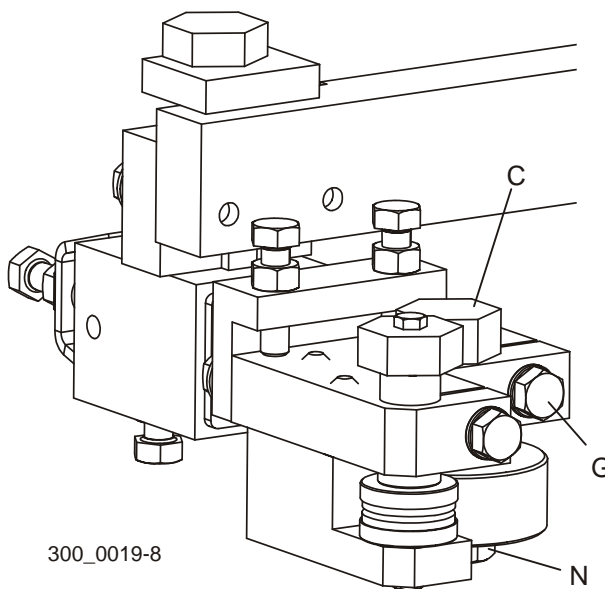

FIG. 7-18
3. Turn bolt (A) counterclockwise on each blade guide assembly up until the bottom guide disks touch the blade, but do not deflect it upward.
4. Turn bolt (F) clockwise to adjust the top guide disk on each blade guide assembly back down until it touches the blade, then back up 1/4 - 1/2 turn. Tighten clamp bolt (H).
See Figure 7-18. To adjust, loosen clamp bolt (G) and turn bolt (C) to move the roller toward or away from blade. Raise or lower the roller to avoid the blade contacting an existing groove in the roller. Retighten clamp bolt (G). **NOTE:** If the roller is completely grooved on one end, remove bolt (N) and flip the roller to use the other end. If both ends are completely grooved, replace the roller.